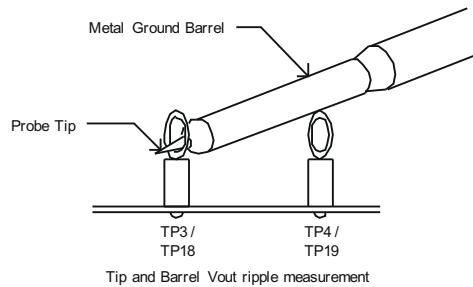

Figure 4-2. Tip and Barrel Measurement Technique (output ripple measurement using TP3 and TP4 or TP18 and TP19)
TPS54386EVM provides two test points for measuring the voltage generated by the module. This allows the user to measure the actual module output voltage without losses from output cables and connectors. All output voltage measurements should be made between TP3 and TP4. To use TP3 and TP4, connect a voltmeter positive terminal to TP3 and negative terminal to TP4. For Output ripple measurements, TP3 and TP4 allow a user to limit the ground loop area by using the Tip and Barrel measurement technique shown in Figure 4-2. All output ripple measurements should be made using the Tip and Barrel measurement.
TPS54386EVM provides two test points for measuring the voltage generated by the module. This allows the user to measure the actual module output voltage without losses from output cables and connector losses. All output voltage measurements should be made between TP18 and TP19. To use TP18 and TP19, connect a voltmeter positive terminal to TP18 and negative terminal to TP19. For output ripple measurements, TP18 and TP19 allow a user to limit the ground loop area by using the Tip and Barrel measurement technique shown in Figure 4-2. All output ripple measurements should be made using the Tip and Barrel measurement.
VIN: The input voltage source (VIN) should be a 0-15 V variable dc source capable of 5 A_{DC}. Connect VIN to J1 as shown in Figure 4-2.
Oscilloscope: A digital or analog oscilloscope can be used to measure the ripple voltage on VOUT. The oscilloscope should be set for 1-MΩ impedance, 20-MHz bandwidth, ac coupling, 1-μs/division horizontal resolution, 10-mV/division vertical resolution for taking output ripple measurements. TP3 and TP4 or TP18 and TP19 can be used to measure the output ripple voltages by placing the oscilloscope probe tip through TP3 or TP18 and holding the ground barrel to TP4 or TP19 as shown in Figure 4-2. For a hands free approach, the loop in TP4 or TP19 can be cut and opened to cradle the probe barrel. Using a leaded ground connection may induce additional noise due to the large ground loop area.
4. Connect oscilloscope probe to TP3 and TP4 or TP18 and TP19 as shown in Figure 4-2.